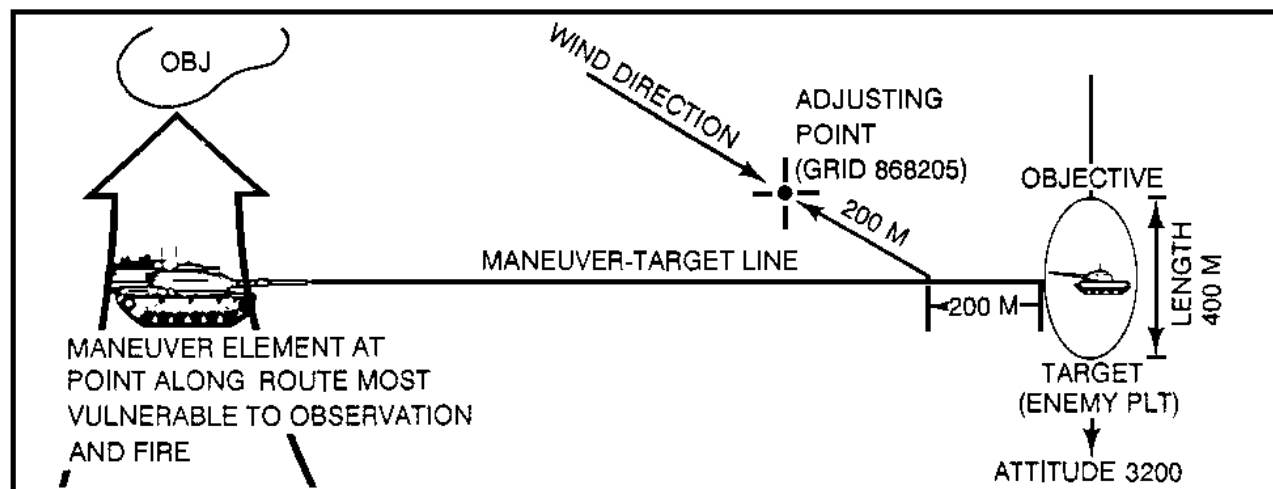

Figure 7. Determining an adjusting point for quick smoke.
EXAMPLE: The FO determines the maneuver-target line based on the most vulnerable point of the route of march and the enemy's location. Wind direction affects the MT line as a crosswind. Wind speed is 6 knots, so smoke (HC) is the desired munition. From Table 7, the FO determines the adjusting point to be 200 M short (S) and 200 M upwind (UW) from the target in relation to the MT line. See Figure 7. The commander desires smoke for 10 minutes.
EXAMPLE: From the example in Figure 7, the FO has all the information necessary to send his call for fire: